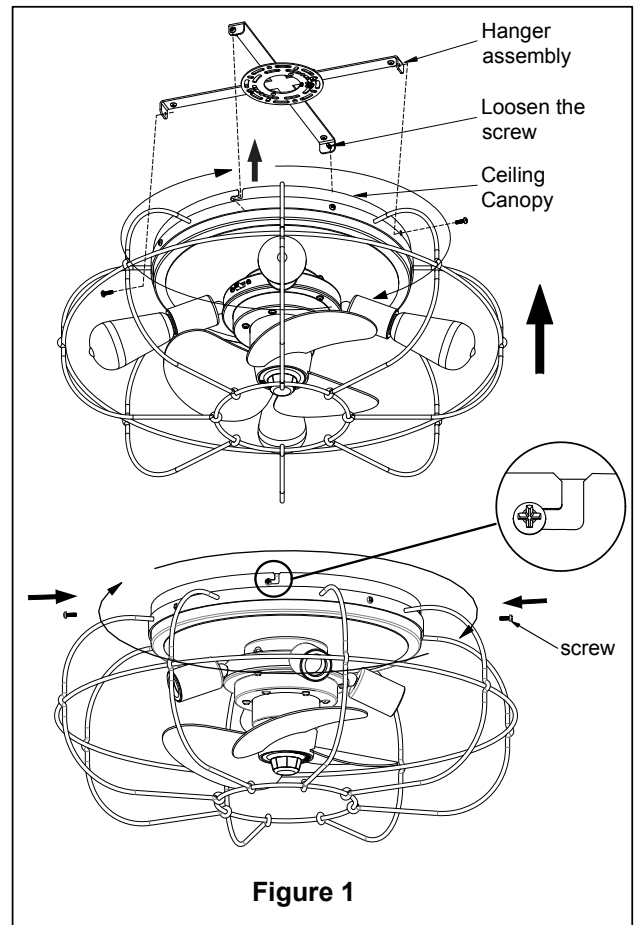

Figure 1
1. Install light bulbs into sockets by threading in a clockwise direction. (Figure 1)